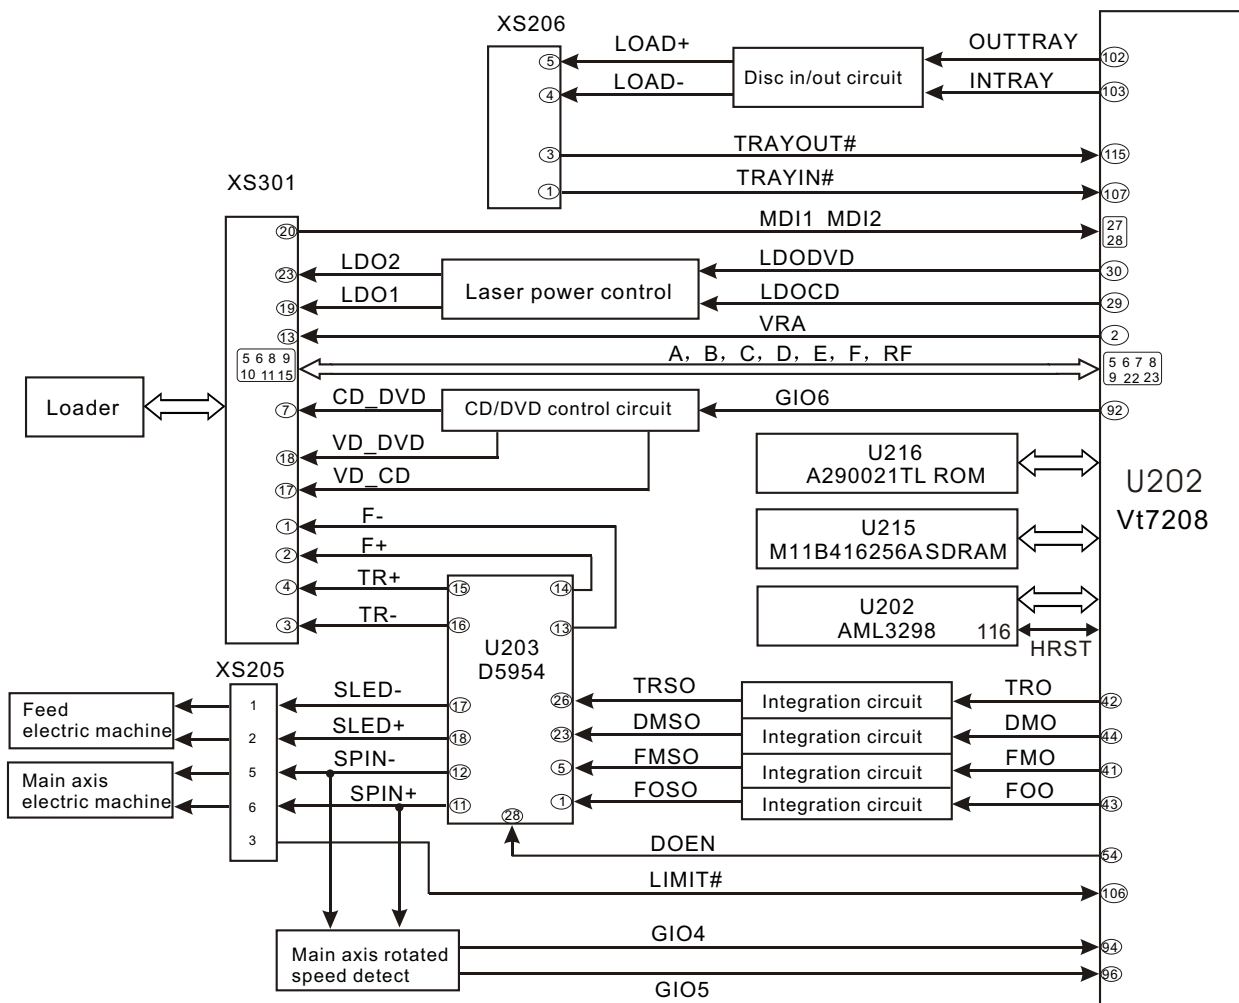

Figure 3.2.3.1 Servo circuit block diagram
1. DK3510 adopts SANYO 62 loader and VT7208+ROM (1M) + DRAM (4M), and its servo circuit is mainly composed of front signal processing and digital servo processing, digital signal processing IC Vt7208 and drive circuit D5954, shown as in the following figure 3.2.3.1: